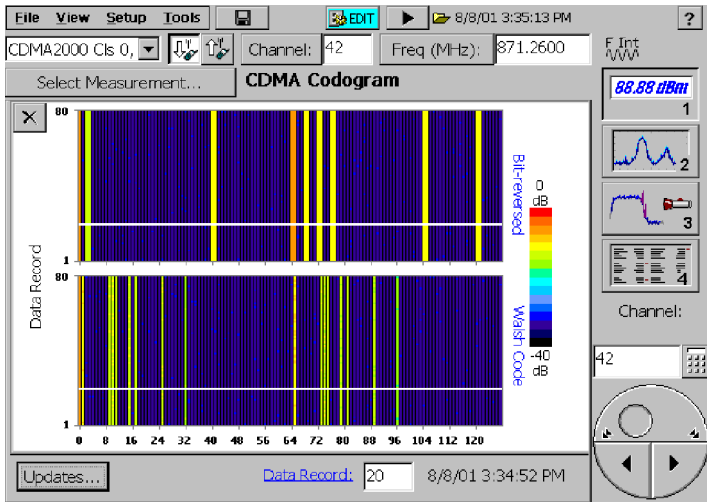

Figure 3-55: cdma2000 Codogram display
5. Tap **Codogram**. See Figure 3-55.